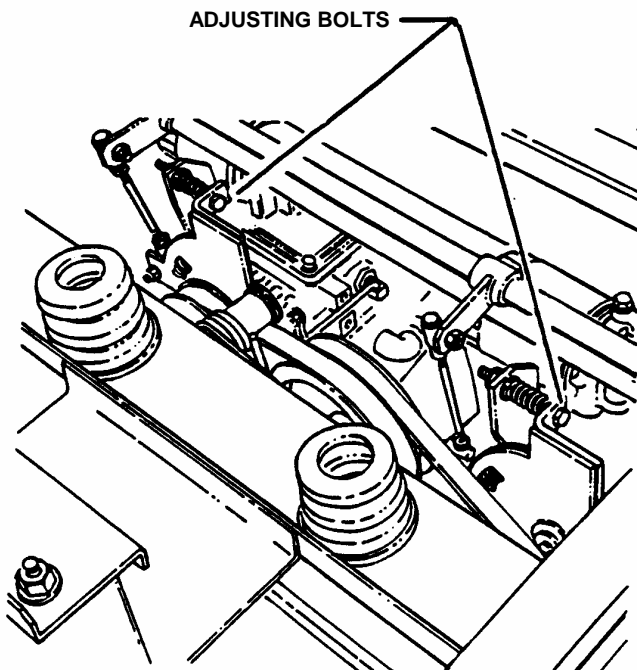

FIGURE 5.1
7. If wheel(s) are rotating, disconnect transmission control rods from cross shaft and turn adjusting bolts located on pump(s) clockwise, or counter-clockwise, until wheel(s) stop rotating. See Figure 5.1